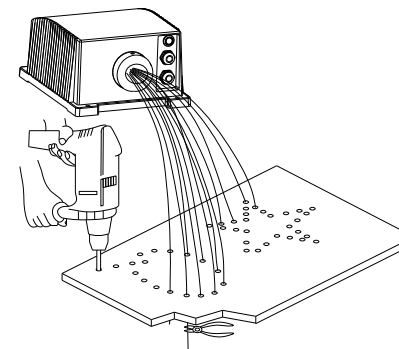

Fig. 8
- (1) Drill holes on the installing board according to the design. Then insert the fiber optic string into holes and fix it with epoxy glue. Trim the end of the fiber string to be flush with the board or at a required length. Fasten the other end of the fiber string to a harness and insert the harness into PG Connector and Fiber Connector. Apply the hot knife to cut fiber end flush with the Fiber Connector. (See Fig. 8).
- (2) Insert the finished Fiber Connector into the Fixing Flange and screw tightly the screw.